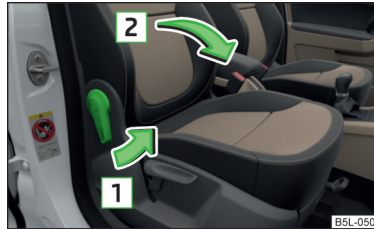

Fig. 58
- To **fold** the seat down, pull the lever in the direction of arrow **1** and fold down the seat back in the direction of arrow **2** » Fig. 58. The locking mechanism must audibly snap into place.